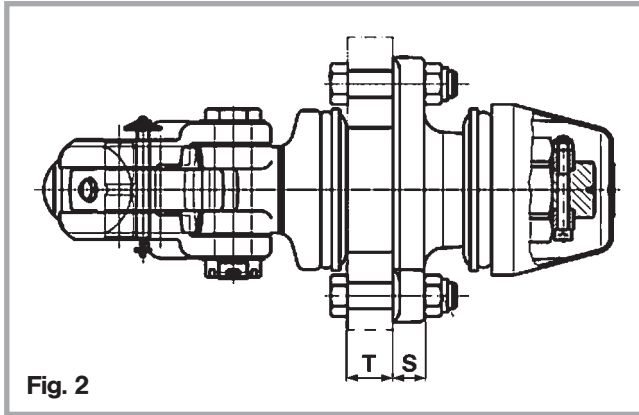

Fig. 2
**Mount bolt heads on the side directed towards the funnel (outside the cross member) to avoid impairing movability of the hitch (see Fig. 2)**